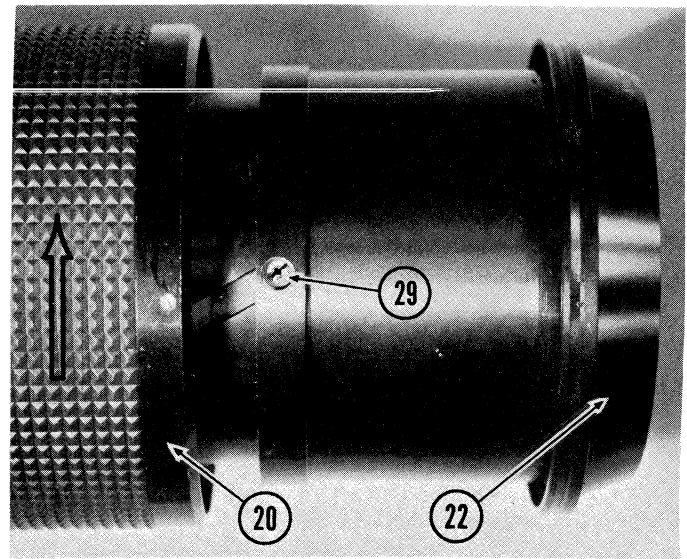

Fig. 8
- 2.1.3 Slide Zoom Ring (22) from under Zoom Collar Ring (20) (which will move Zoom Rollers in zoom cam slots). Rotate Zoom Collar Ring counterclockwise to its stop. (Fig. 8)
- 2.1.4 Rotate Zoom Ring until Zoom Roller Shaft (29) appears in clearance hole nearest front edge of Ring. (Fig. 8)
- 2.1.5 Remove Shaft (29) and Zoom Ring (22). (Fig. 8)